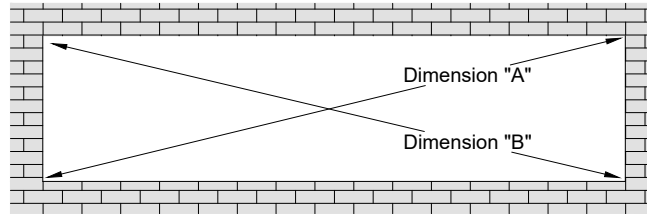

Fig.18.1
- A. Make sure the opening is square and plumb. Measure each diagonal of the opening. **SEE Fig.18.1**